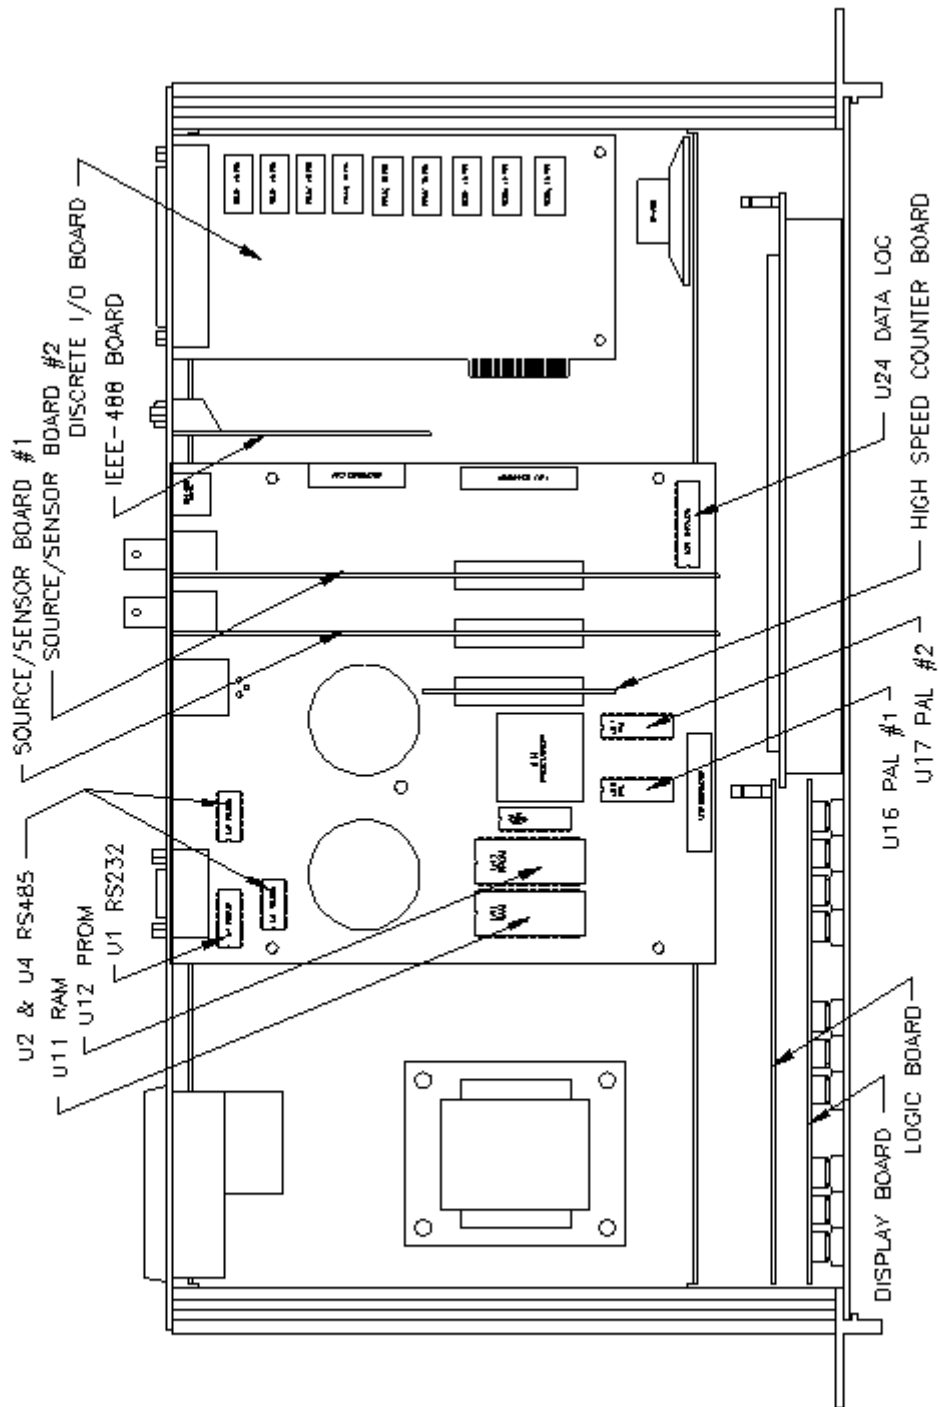

Figure 1 - MDC-360 Top View
- Older versions of the MDC-360 main board have 28 pin EPROM sockets (see U12 PROM in Figure 1) instead of the current 32-pin socket. If you have one of these obsolete boards, you will need to return it to the factory prior to completing this upgrade. If you have an MDC-360 that the S/N is before S/N 678 contact the factory, you might need to purchase additional parts (High Speed Board Rev. C and RAM P/N 93K6T1008C2E).
- Otherwise remove the old EPROM from socket U12, the PALS U16 and U17, and the Processor IC U14 (see Figure 1) and replace them with the new IC's. Take care not to bend any pins when you insert the device. Also make sure that the EPROM is oriented as shown in Figure 1 (see U12 PROM). Use the Extractor tool to remove the processor.